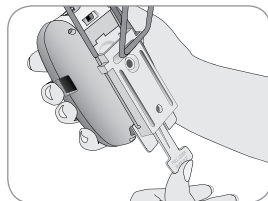

Fig. 12
2. Slide alarm onto bracket from top down until it is firmly in place (fig. 12).